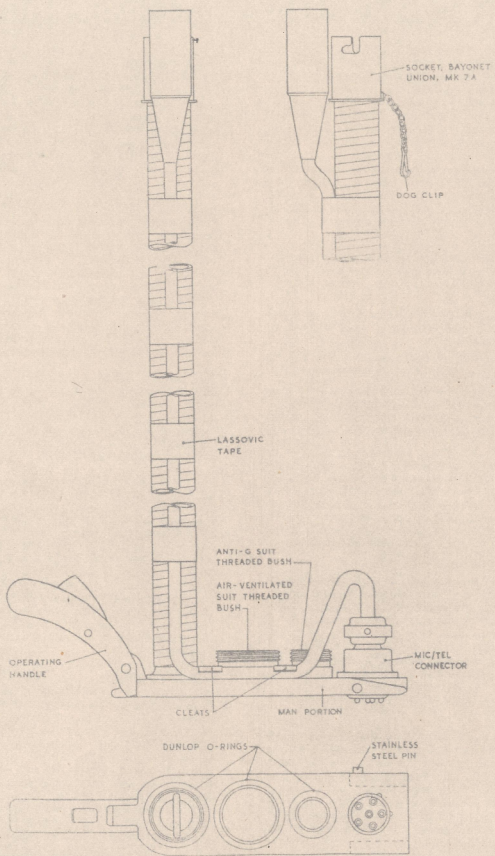

Fig. 2. Details of personal component (low altitude)
6. The personal component (fig. 2) forms part of the flying clothing and is only connected to the seat component when the occupant fits his equipment prior to a sortie. On ejection, the personal component remains attached to the seat component until separation by the time-release unit or by the manual over-ride control. Before leaving the seat after completing a sortie, the occupant disconnects the personal component as described later. In this component, the air ventilated suit supply is the only service which embodies an automatic valve. This is provided to prevent the ingress of water should the occupant be forced to alight in the sea.